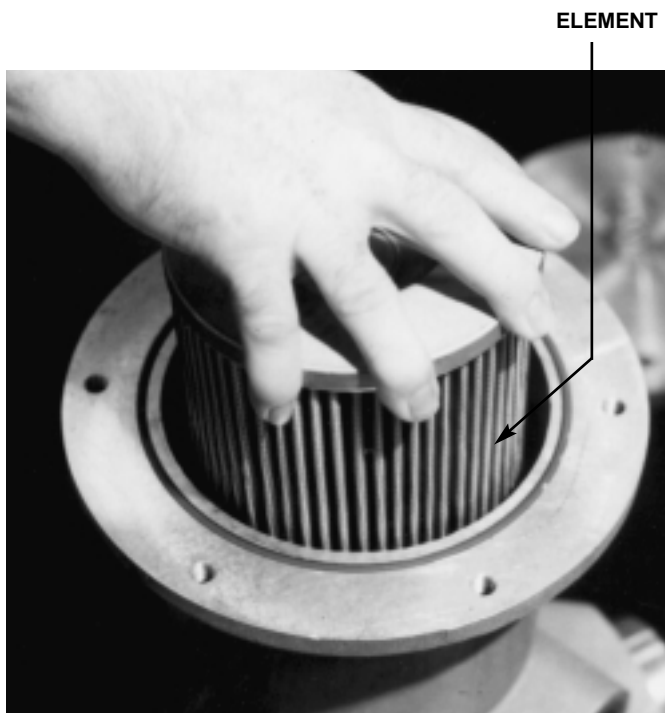

FIGURE 4.13-3 ELEMENT REMOVAL
5. Lift element from housing and discard (See Figure 4.13-3).